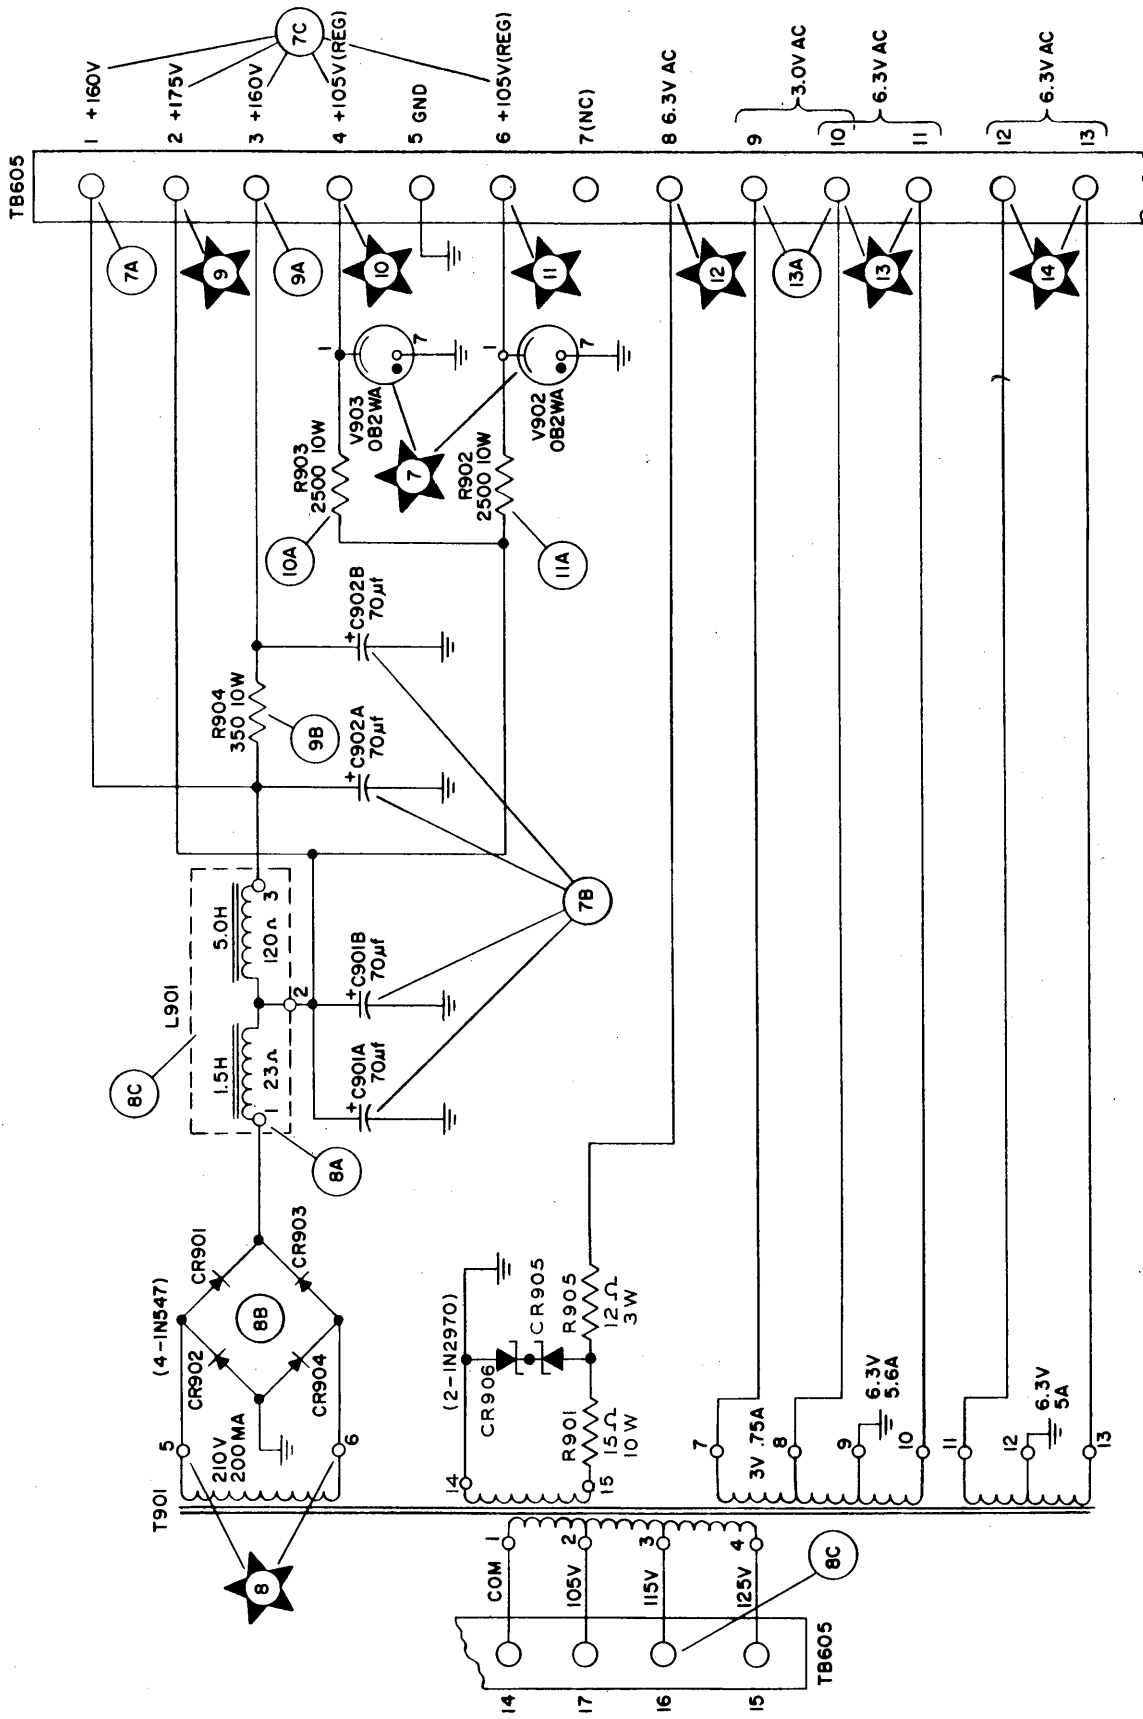
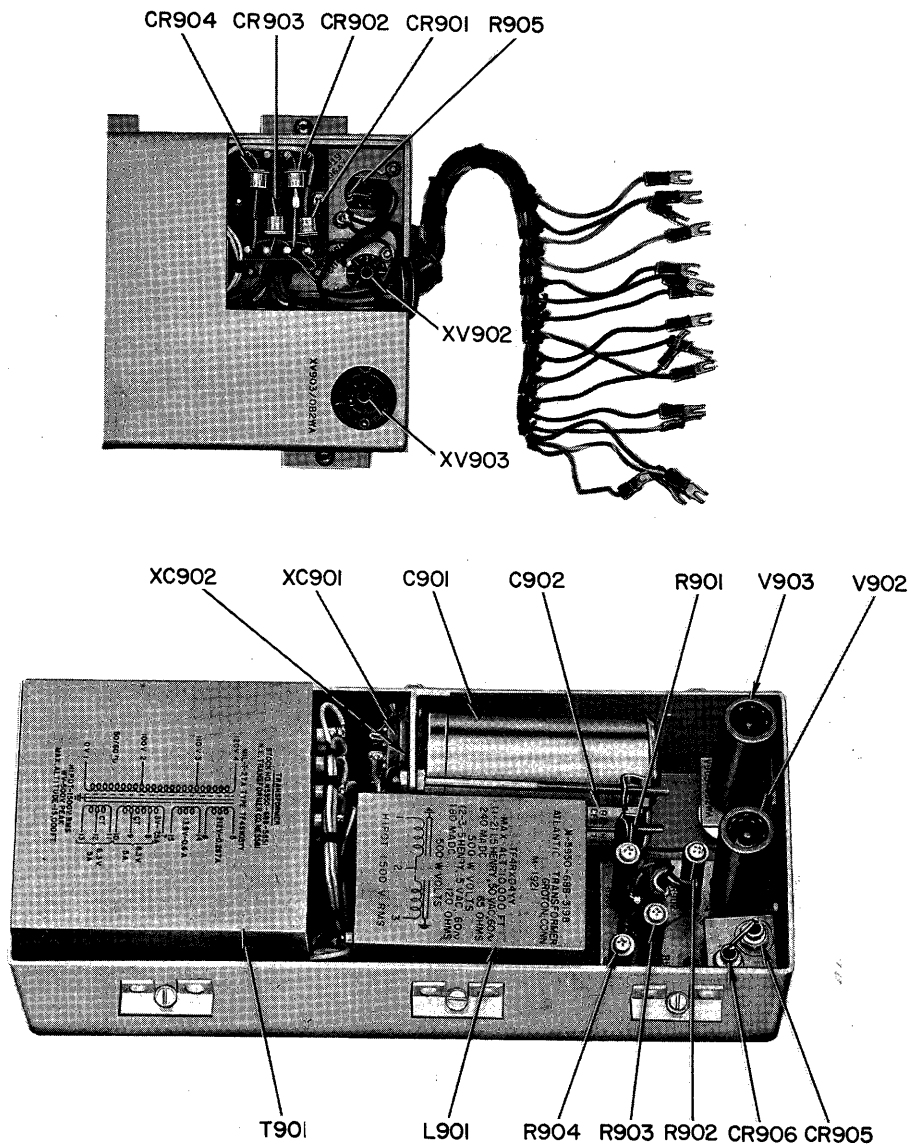

Figure 5-2. Converter Power Supply, Functional Schematic Diagram
Figure 5-3. Converter Power Supply, Location of Parts
*a.* FUNCTION.— The converter power supply provides plate and filament voltages for operating local oscillators, RF and IF amplifiers, and frequency-standard circuits. Faulty operation will cause erratic operation or will disable the receiver entirely. Figure 5-2 is a functional schematic diagram of the converter power supply; figure 5-3 shows the location of parts.
- (1) Cable connections at TB604, TB605, and TB606
- (2) Seating of tubes V902 and V903 in their sockets
- (3) Clamping of plug-in capacitors C901 and C902 in their sockets.